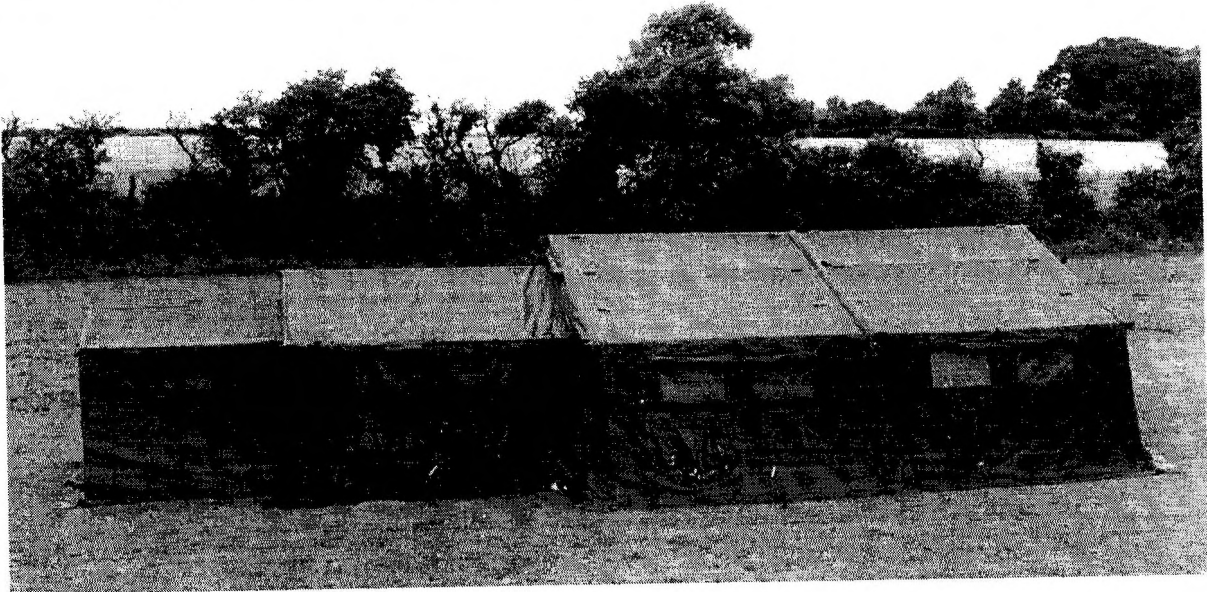

Figure 2: 24 x 18 Connected to 12 x 12 and Passageway
11. It is possible to link many of the GS types of shelters together, and to extend in length by 12 ft. increments, the 12-ft. x 12 ft. and 18 ft. x 24 ft. shelters to make composite arrangements such as headquarters layouts, cooking/dining rooms, field hospitals and other specific to requirement temporary shelter facilities. It is also possible to link shelters together Fig 2.